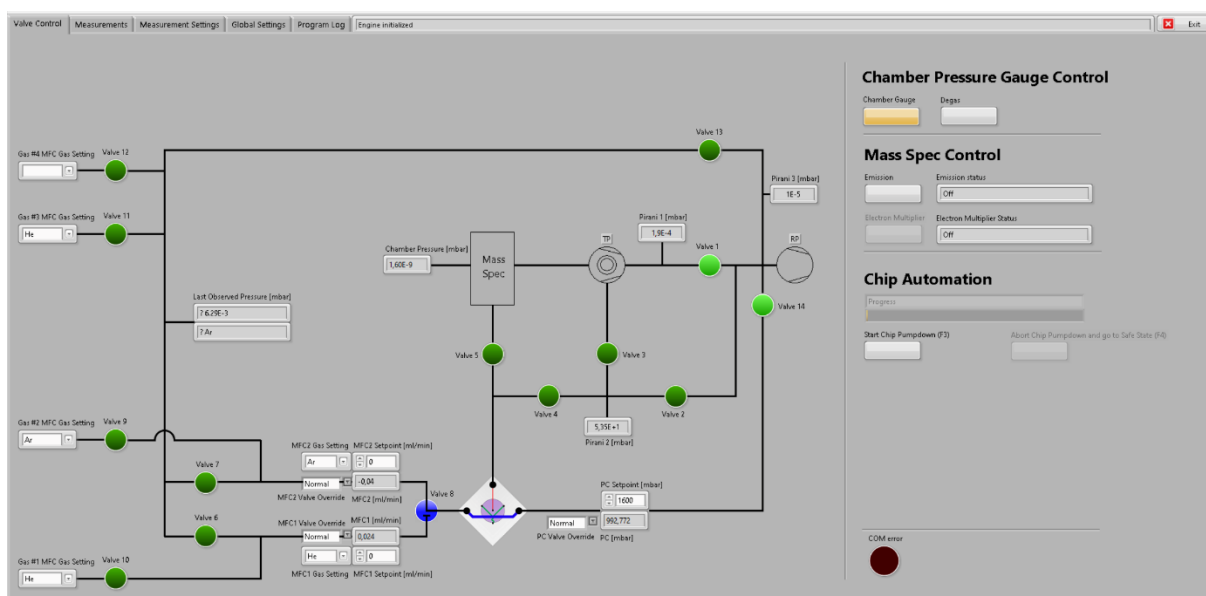
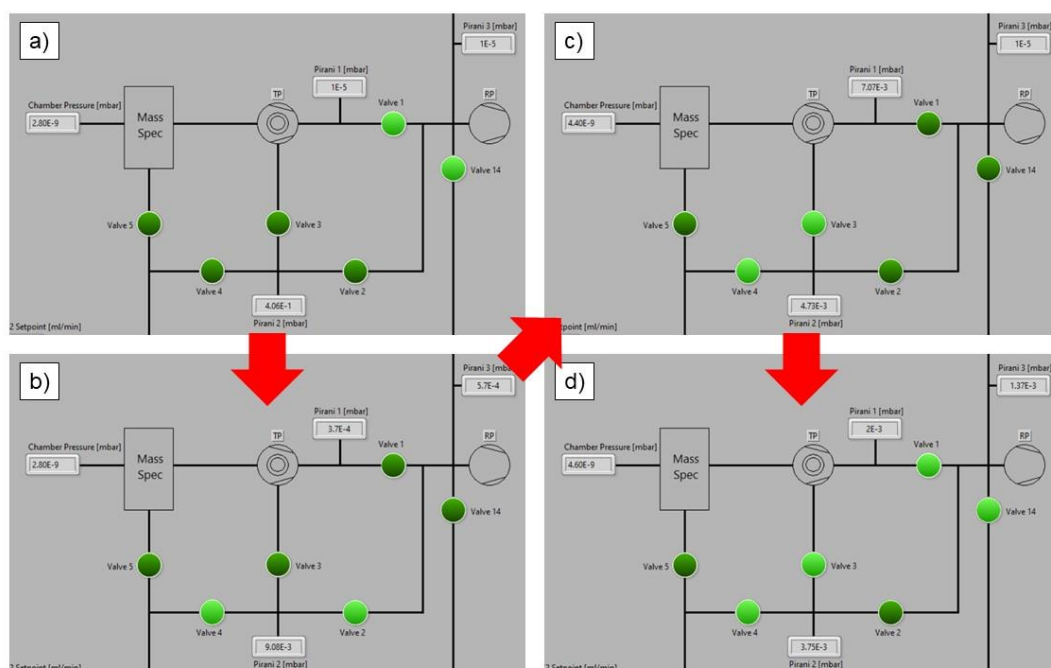

Figure 27. Basic safe state.
Figure 28. Manual pumpdown procedure
- V5 shall be closed and the system shall be in safe state (Figure 27)
2. Bring the system to the state shown in Figure 27 by following these steps
- a. Start from safe state (Figure 27 and Figure 28 a).
- d. Open V4 (Figure 28 b).
- g. Close V2 (Figure 28 c).
- i. Open V1 (Figure 28 d).